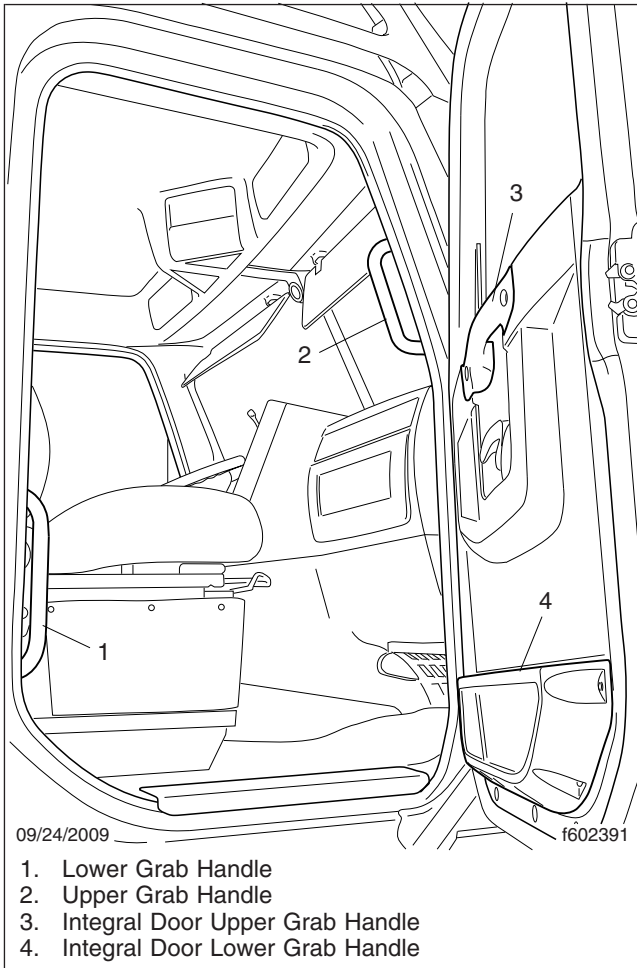

Fig. 2.4, Passenger-Side Steps and Grab Handles
2. Using your left hand, grasp the grab handle that's on the rear of the door opening. See **Fig. 2.4**.
3. Move your left hand to the lower grab handle located at the rear edge of the door opening. See **Fig. 2.4**.